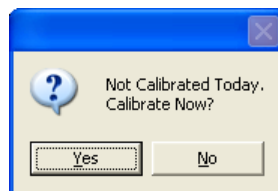
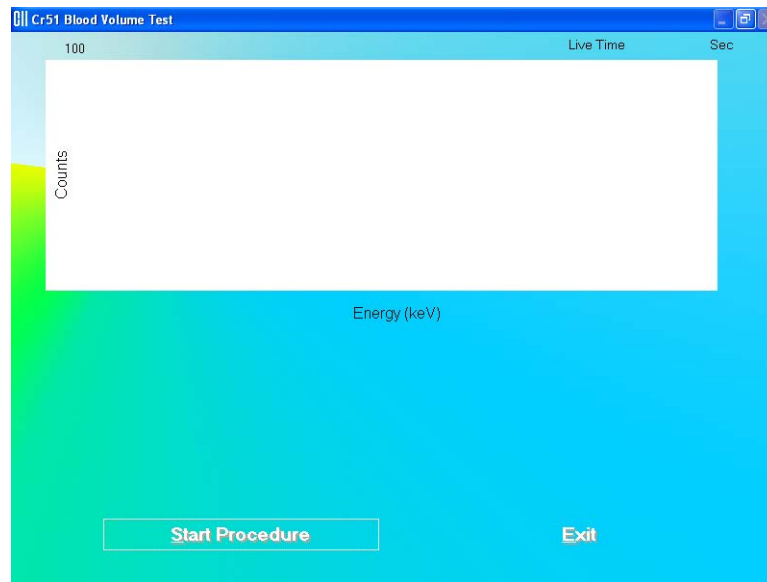

Figure 10-54
Figure 10-55
2. To begin the measurements, click the **Count Selected Patient** button or press *Alt+C*. The screen appears as shown in Figure 10-54.
Note: If calibration has not been performed, you will be prompted with the screen as shown in Figure 10-54. After the calibration is complete, the program will return to the Schilling Test measurement screen shown in Figure 10-55.
To begin counting, verify that there are no radioactive sources nearby and click the **OK** button. To abort the measurement, click the **Cancel** button and the screen will return to that shown in Figure 10-55. To exit to main Cr51 Blood Volume test screen, click the **Exit** button or press *Alt+E*. To begin the test again, click the **Start Procedure** button or press *Alt+S*.